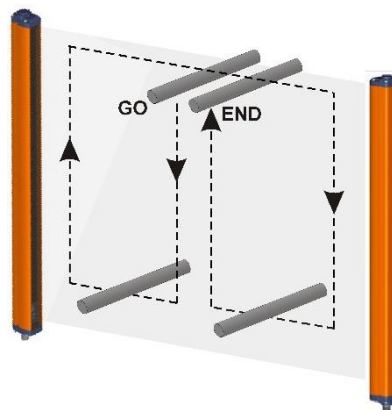

Fig. 11
- ESPE remains blocked (➡️) intercepting the beams along the protected area using the specific test piece, following the Fig.11 scheme.